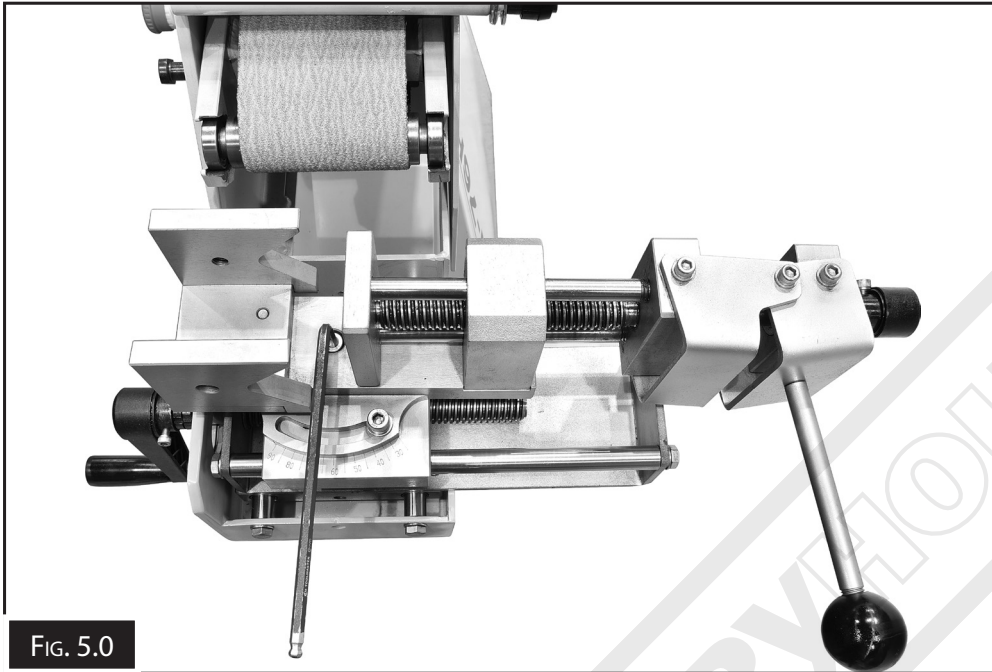

FIG. 5.0
10. Unscrew the two bolts on machine where the sliding vice will go. Mount the sliding vice in place and lock down using the two bolts with an Hex-key as shown in (FIG. 5.0).